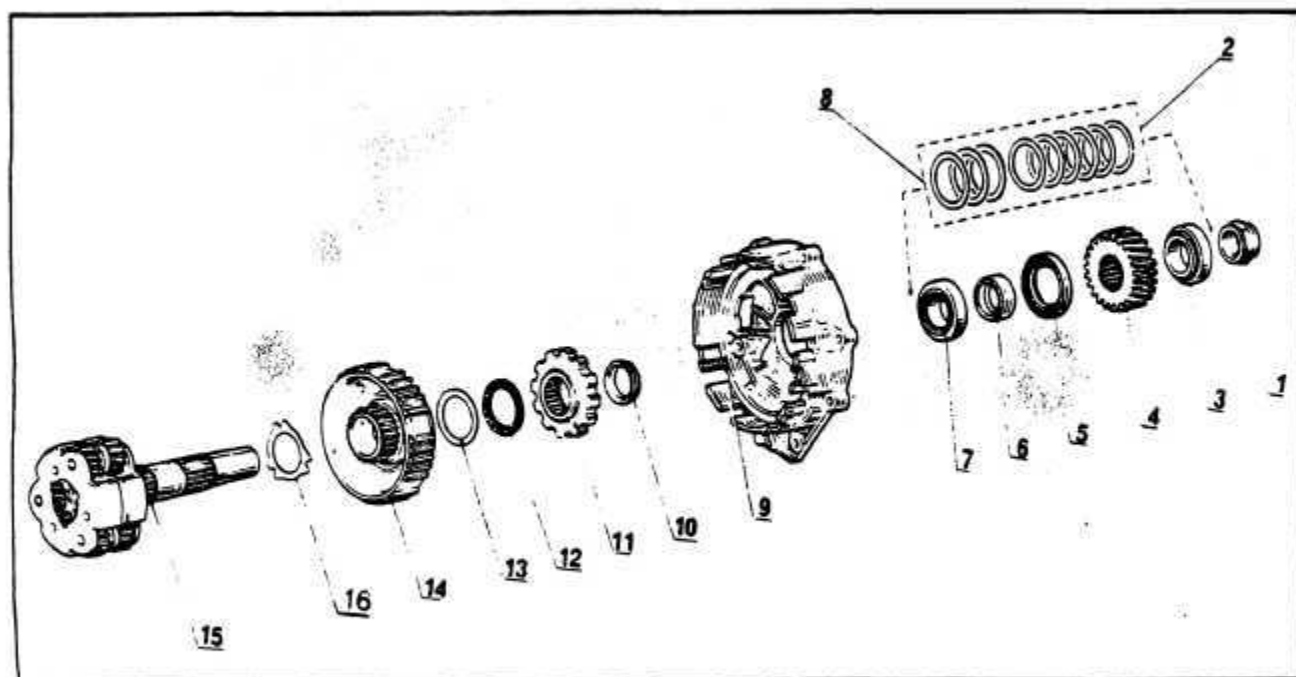

Fig. 71 PLANETARY CARRIER ASSEMBLY
Planetary Gear Carrier — Fig. 71
2. Remove the roller bearing and output gear using a suitable puller. *Fig. 71*
3. Remove the spacer sleeve No. 6 from the carrier shaft and separate the planetary carrier from the housing. *Fig. 71*
4. Remove the spacer No. 10 and park sprocket No. 11 from the carrier shaft. *Fig. 71*
5. Remove the needle bearing No. 12 and washer No. 13 from the carrier shaft. *Fig. 71*
6. Remove the brake hub No. 14 and thrust washer No. 16 from the carrier shaft. *Fig. 71*
7. Remove the seal No. 5 and roller bearing No. 7 from the housing. *Fig. 71*
1. Lubricate the thrust washer No. 16 with automatic transmission fluid and install on the carrier shaft. *Fig. 71*
2. Install the brake Hub No. 14 on the carrier shaft. *Fig. 71*
5. Install the spacer No. 10 on the carrier shaft with its larger diameter facing the park sprocket. *Fig. 71*